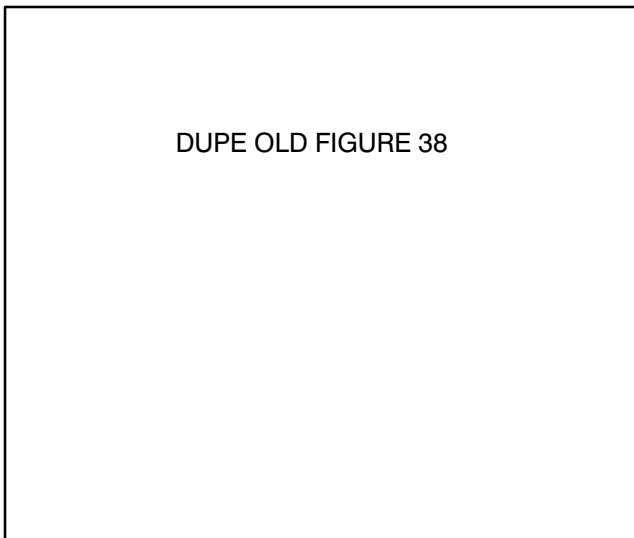

Figure 38
1. With engine shut off, move throttle control to FAST position and open hood. Check between the throttle arm and the stop on the carburetor base to make sure there is 1/32" (0.8 mm) gap (Fig. 38). If gap is not correct, adjust throttle rod (Fig. 38) by turning ball joint ends until gap is 1/32" (0.8 mm). If gap is correct, proceed to step 2.
3. Rotate throttle arm closed until it contacts stop (Fig. 38).
5. Release throttle arm, loosen jam nut on governor low idle speed screw and adjust it to attain 1500 ± 100 rpm (Fig. 38).